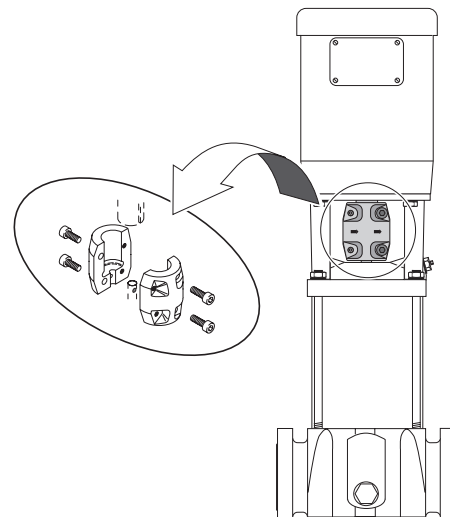

Figure 6 - Remove the Socket Head Screws and the Coupling Halves
3. Remove the coupling guards (54).
4. Remove the socket head screws (73) and the coupling halves (44) from the shaft (81). See Figure 6.